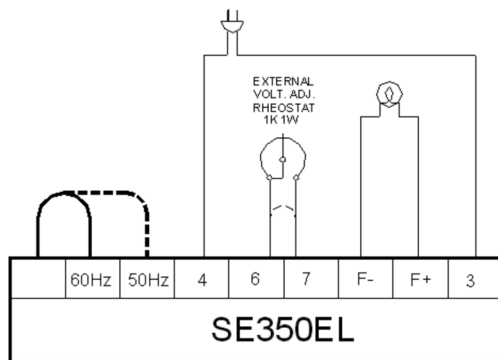

Figure 5 - Operational Test Diagram
1. Connect the AVR as shown in Figure 5 Operational Test Diagram. Do not apply power. Ensure that the light bulbs are rated for 120 volts and less than 100 watts.